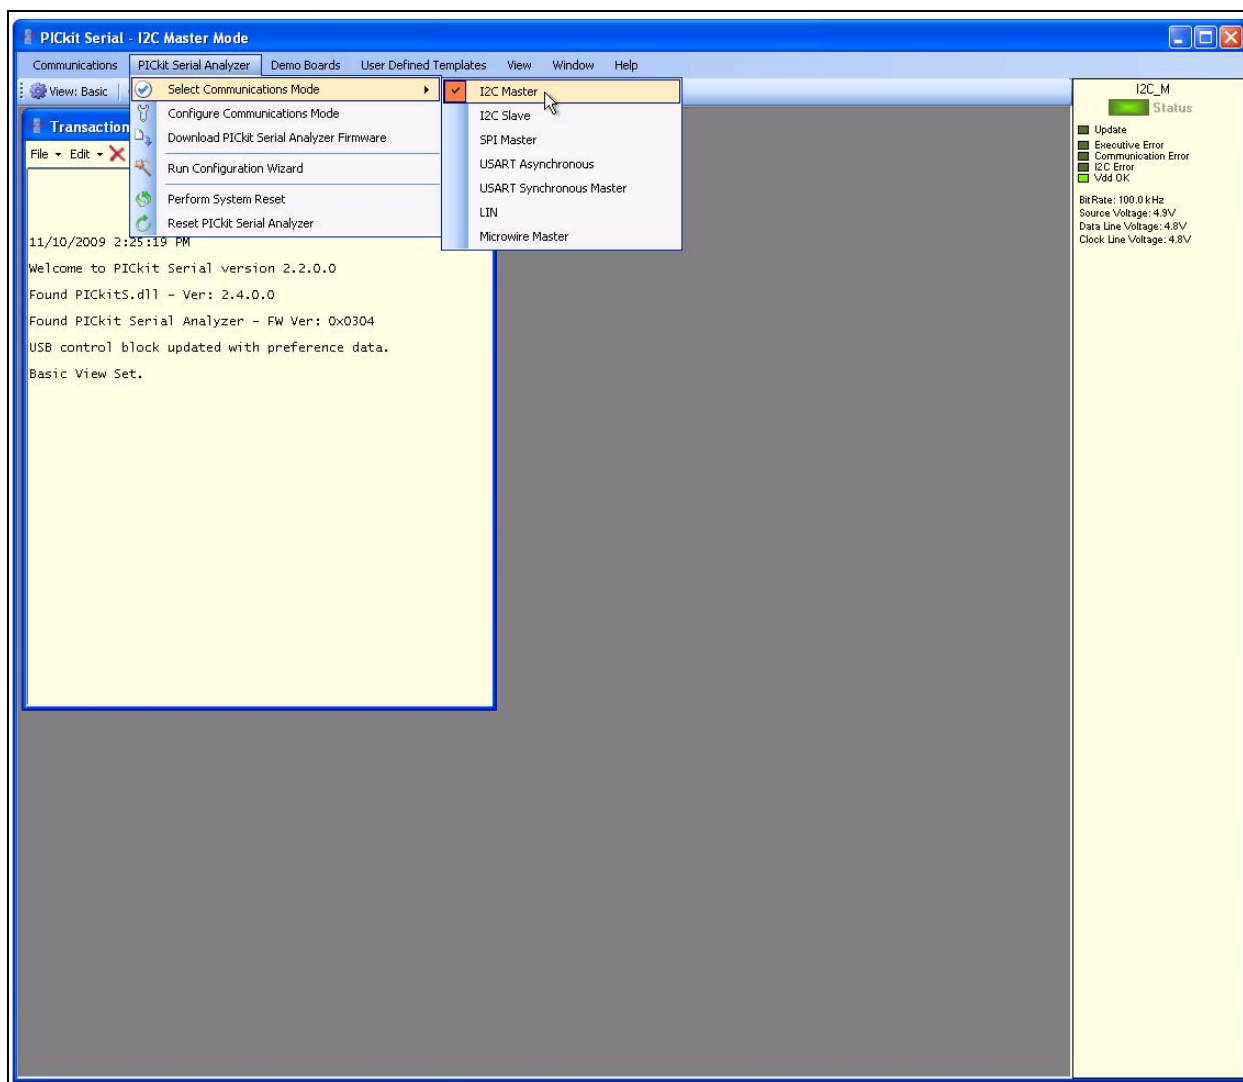

FIGURE 2-4: PICkit Serial Selecting Communications Mode.
We need to select the PICkit Serial Analyzer GUI to be in I²C Master mode. Figure 2-4 shows how to select the proper mode. Select *PICkit Serial Analyzer* -> *Select Communications Mode* -> *I2C Master* menu item (make sure the I2C Master item is checked).
4. Ensure the GUI is in Master I²C communication mode (see Figure 2-4).